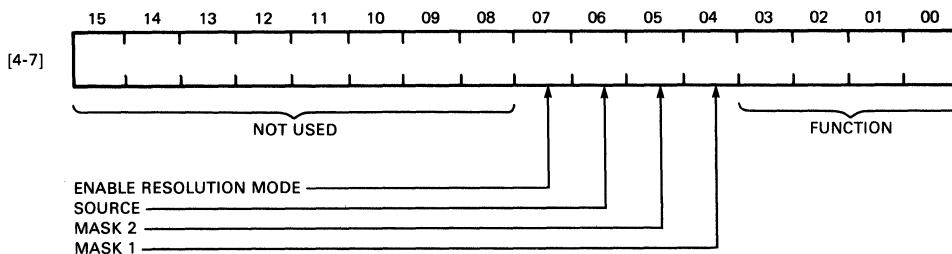

Figure 9 • 78660/78680 Logic Unit Function Registers (0-3) Format
Logic unit function (0-3)—Each of the four logic unit function registers (0 through 3) include 8-bits of information. The registers combine the word read from destination (D) during a read-modify-write cycle with the contents of the source (S) register. The results are used to select the color of the foreground and background of the display. The format of the registers are shown in Figure 9 and described in Table 7.